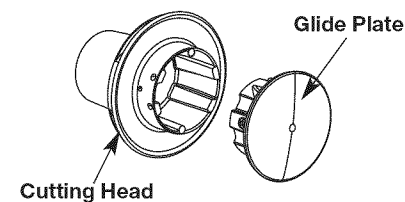

Fig. 26
- Reinstall line glide plate (Fig. 26). The glide plate is a keyed item and will only fit one way. If it does not go into the cutting head smoothly, **DO NOT** force it. Rotate the glide plate until it slides into the cutting head easily.